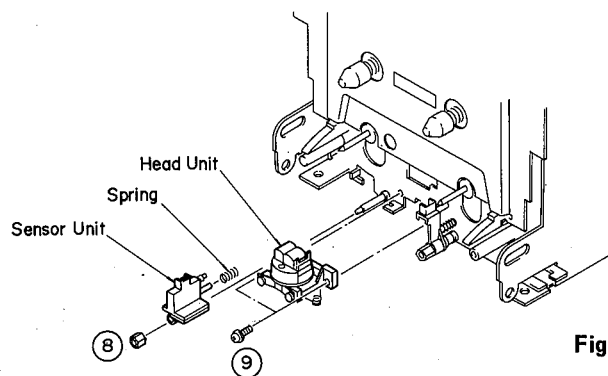

Fig. 6
- a. Straighten the bent lug and remove the lead wire in Fig. 6
- c. Remove hexagonal nut (8) in Fig. 6. (Tape Guide Sensor unit)
- d. Remove 2 screws (9) in Fig. 6 and then remove the Head Unit.